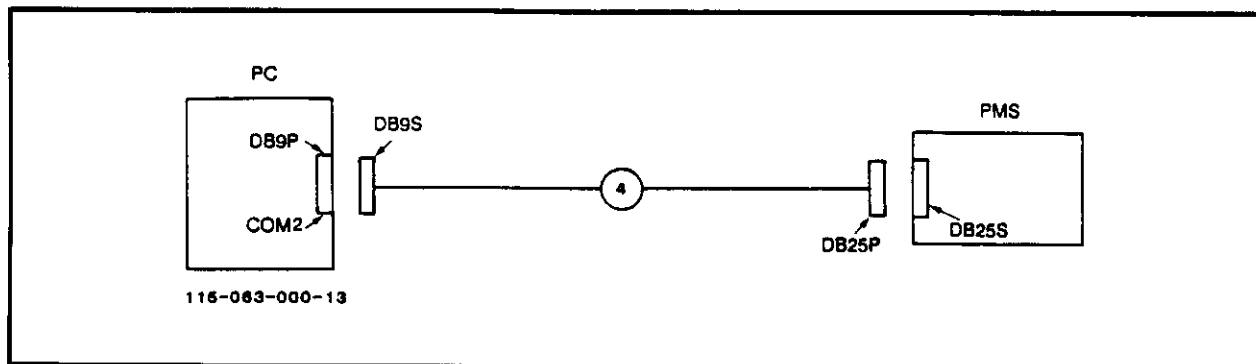

Figure 3-17. Local PC to PMS Interface Connection
- 10.01 If you have a local cable kit, refer to Figure 3-17 and follow these steps.